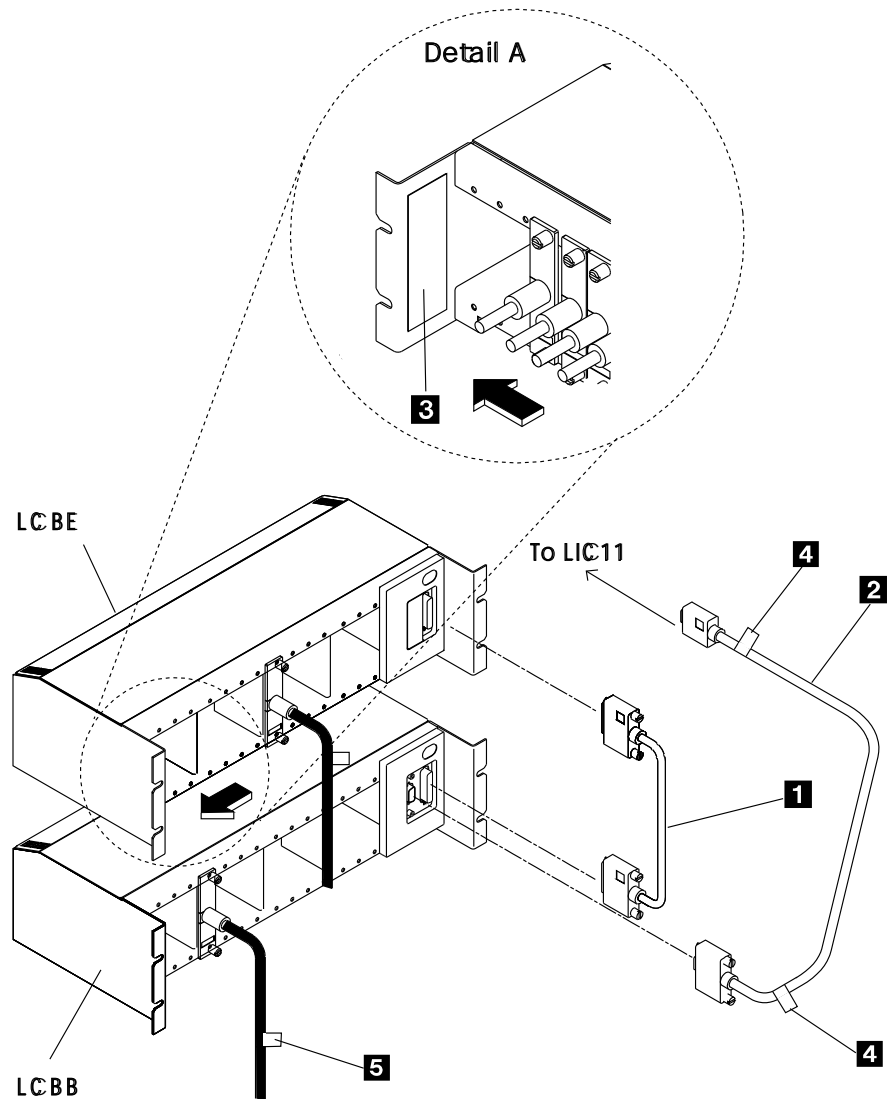

Figure 7-10. LCBB and LCBE Connections (Installed with ARC Assembly A)
Step 3 Put the label on the inner left side of the LCB (see **3** in Detail A of Figure 7-10 on page 7-16).
Step 11 Put two identical labels at both ends of the cable (see the two **4** s in Figure 7-10 on page 7-16).
Step 12 Connect the LIC11 cable to the LCB base and tighten the cable plug retaining screws (see “Unplugging or Plugging In LIC Cables” on page 7-7 for details, and also **2** in Figure 7-10 on page 7-16).
- Step 5** Put ARC labels at both end of the cable (see **5** in Figure 7-10 on page 7-16). Remove any old labels first.